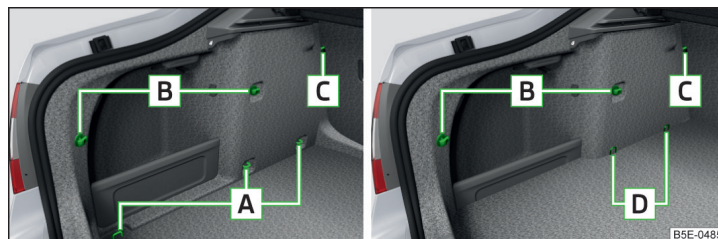
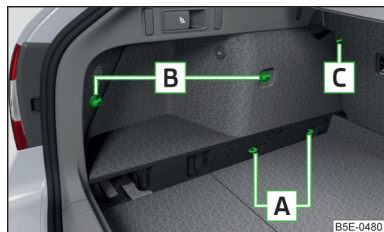
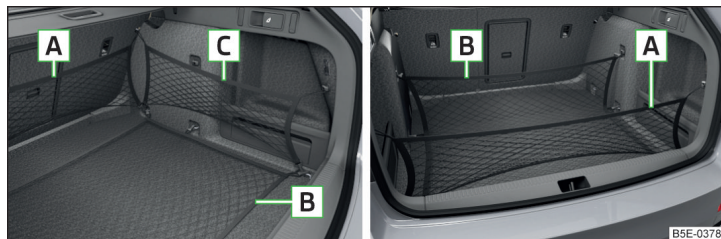

Fig. 96 Version 1 / version 2
Fig. 97
Fig. 98 Fastening examples for nets
Overview of the fasteners » Fig. 96 and » Fig. 97
Fastening examples for nets » Fig. 98
- For natural gas vehicles, it is only possible to secure cross pocket **A** behind the seats » Fig. 98 and the ground network with securing of the rear portion of this net to the rear fixing elements **B** » Fig. 96 on page 103 .